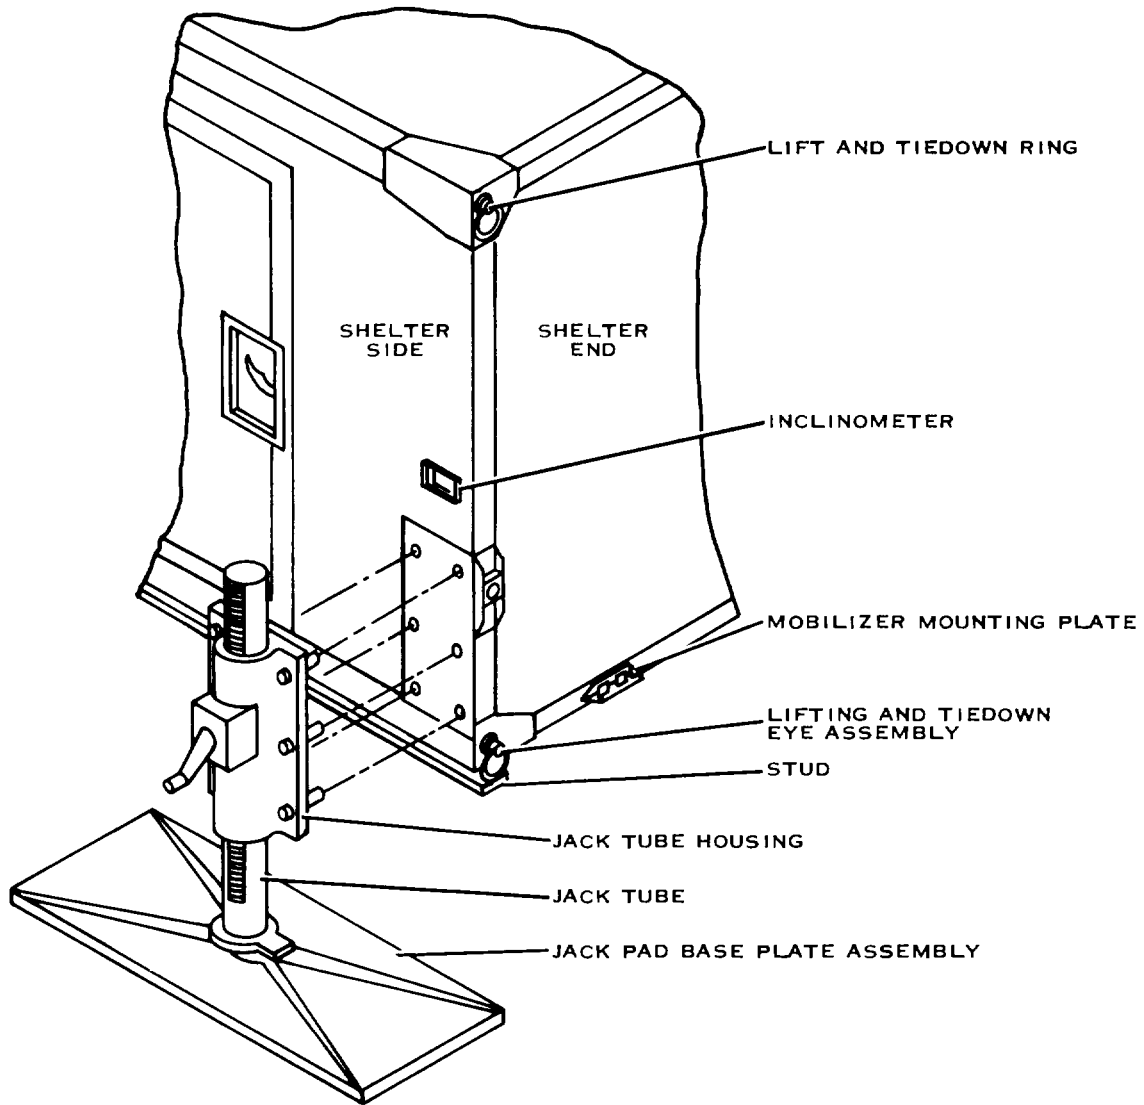

Figure 2-2. Jack and Interface on Shelter
- a. Attach jack to each corner of the shelter using interface provided. Refer to figure 2-2.